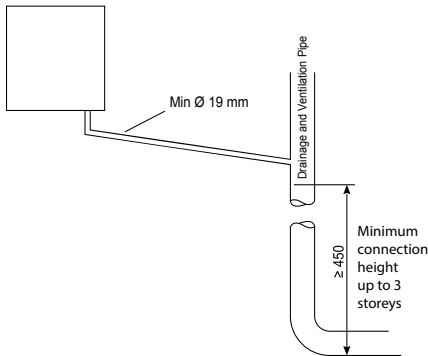

Figure 13 Connection of the Condensate Water Drainage Pipe to Internal Drainage and Ventilation Pipe
- characteristics of the chimney to which the boiler may be connected, according to fig 13.